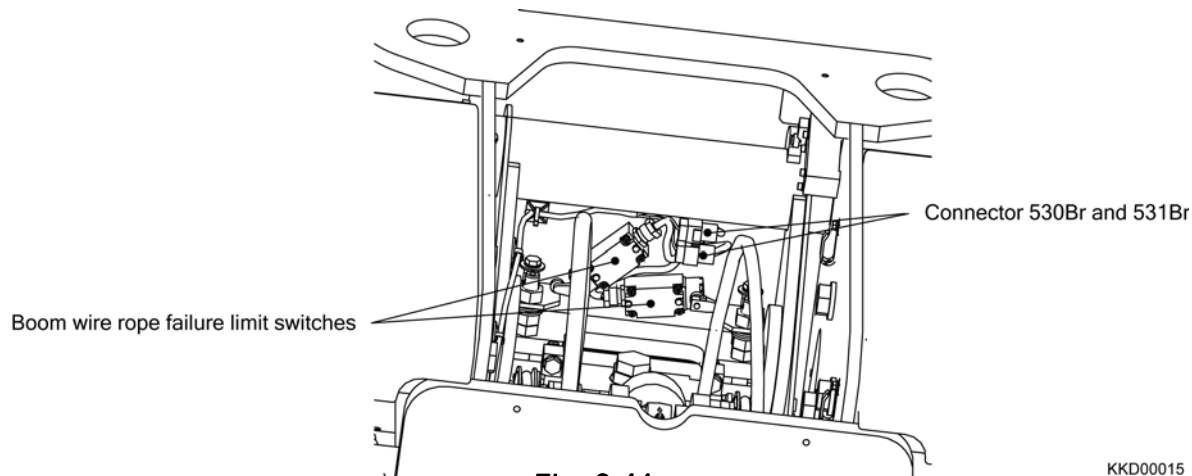

Fig. 2-44
- 19) Disconnect the cable for the boom wire rope failure limit switches (Connector 530Br, 531Br) and then cut cable ties fixing the cables (Fig. 2-44) [CE model only]